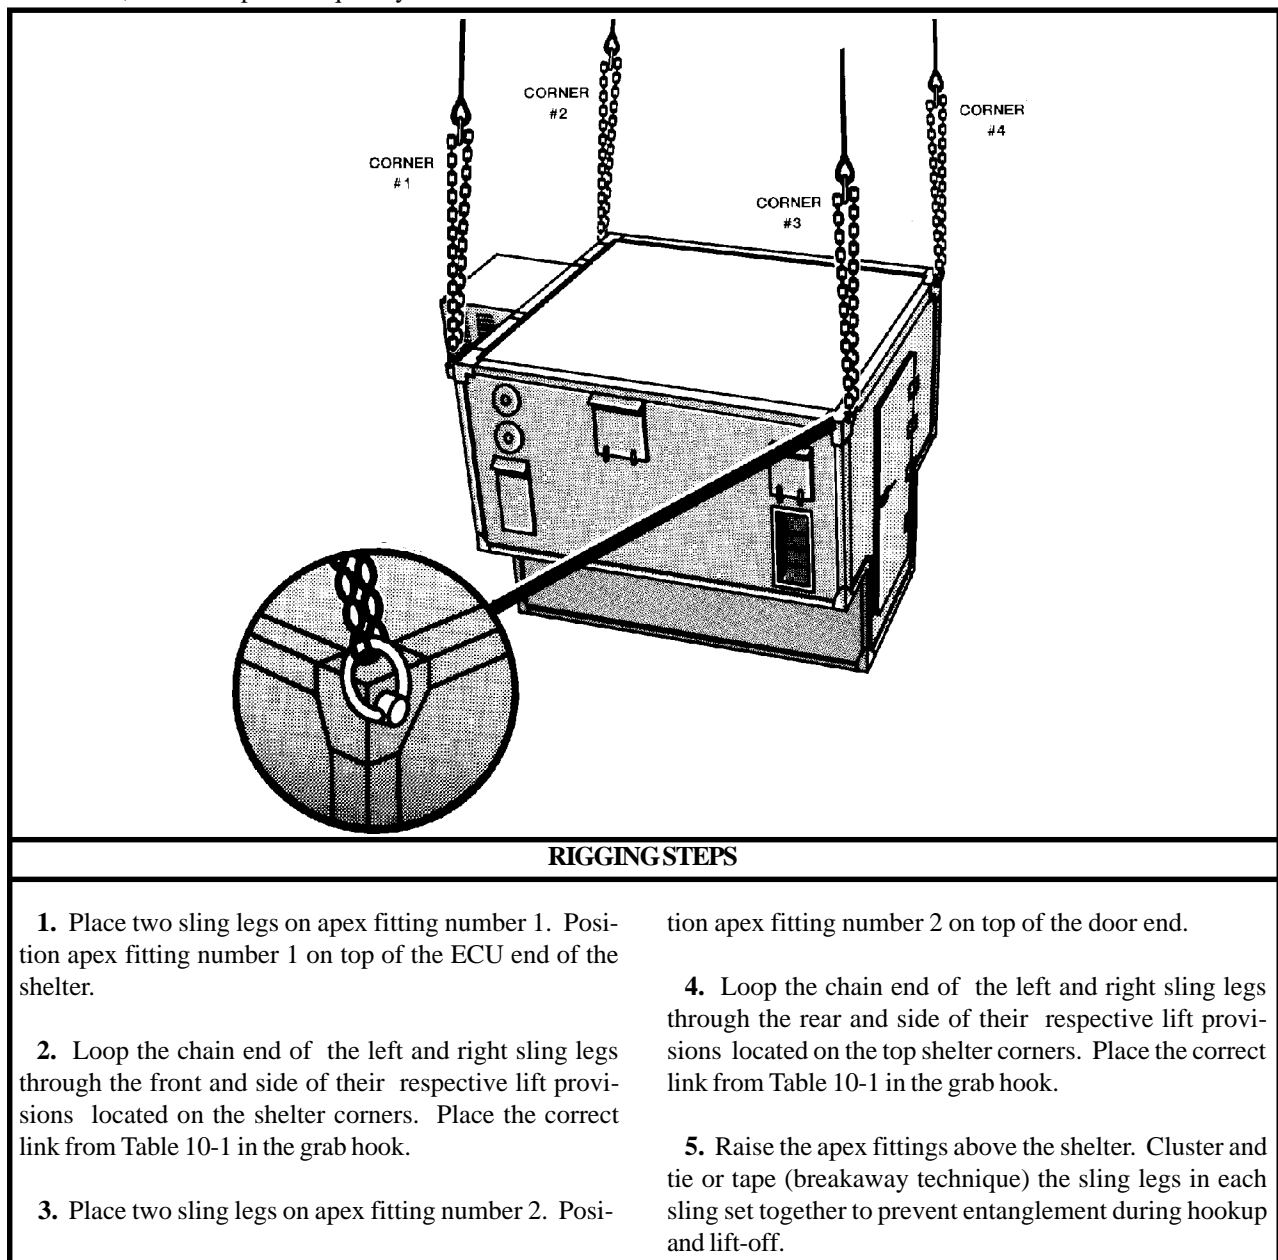

Figure 10-1. S-250 Shelters
- (1) **Preparation.** Prepare the load using the following steps:
- (2) **Rigging.** Rig the load according to the steps in Figure 10-1.